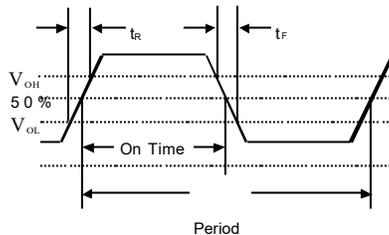
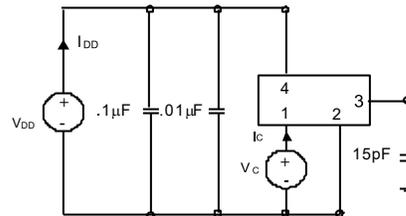

Figure 1. Output Waveform
Figure 2. Typical Output Test Conditions ($25 \pm 5^\circ C$)
2. Figure 1 defines these parameters. Figure 2 illustrates the operating conditions under which these parameters are tested and specified.